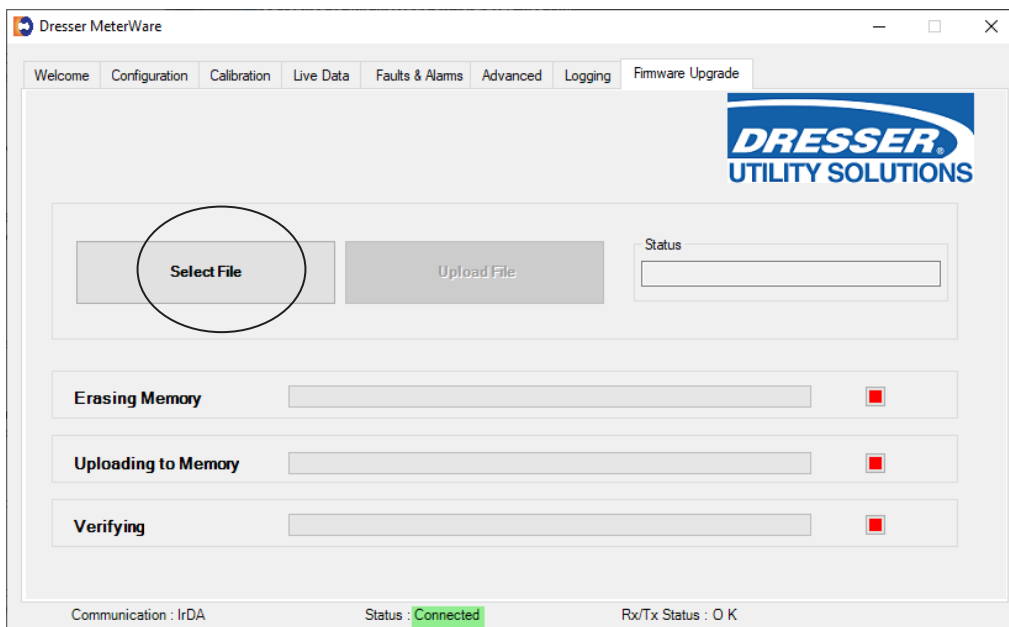

Figure 12.3 Example - Firmware Upgrade Screen
2. From the next screen, click Select File. Refer to Figure 12.3 Example.